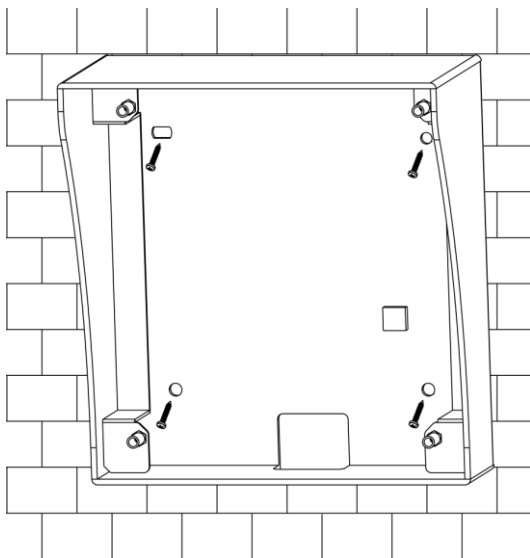

Figure 1
- Step 1. Install metal bracket into the groove on wall. At spot 1 fasten screw (ST3×18 Cross recessed countersunk head tail tapping screws --- galvanizing white), and fix metal bracket on wall. See Figure 1